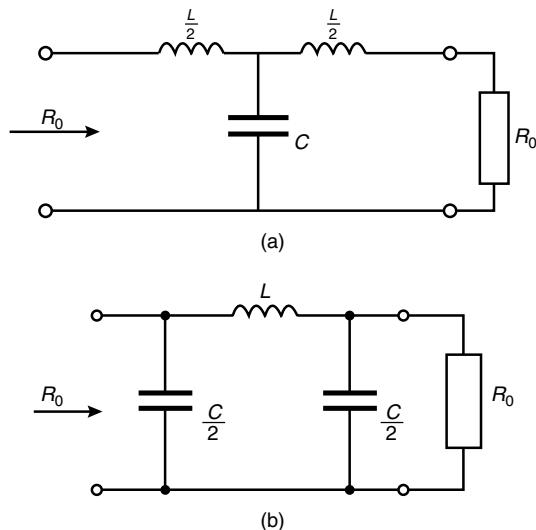
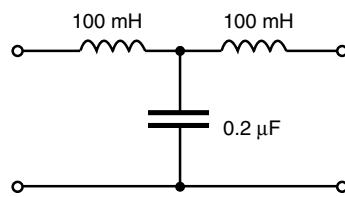
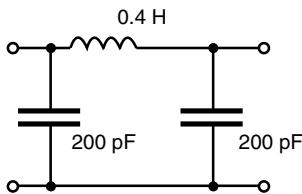
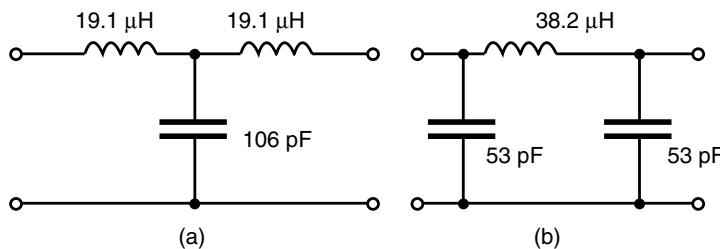

Figure 17.7
Figure 17.8
Figure 17.9
Figure 17.10
A low-pass symmetrical T-network and a low-pass symmetrical π -network are shown in Figure 17.7. It
Problem 1. Determine the cut-off frequency and the nominal impedance for the low-pass T-connected section shown in Figure 17.8.
Comparing Figure 17.8 with the low-pass section of Figure 17.7(a), shows that:
Problem 2. Determine the cut-off frequency and the nominal impedance for the low-pass π -connected section shown in Figure 17.9.
Comparing Figure 17.9 with the low-pass section of Figure 17.7(b), shows that:
- (a) A low-pass T-section filter is shown in Figure 17.10(a), where the series arm inductances are each $\frac{L}{2}$ (see Figure 17.7(a)), i.e. $\frac{38.2}{2} = 19.1 \mu\text{H}$
- (b) A low-pass π -section filter is shown in Figure 17.10(b), where the shunt arm capacitances are each $\frac{C}{2}$ (see Figure 17.7(b)), i.e.